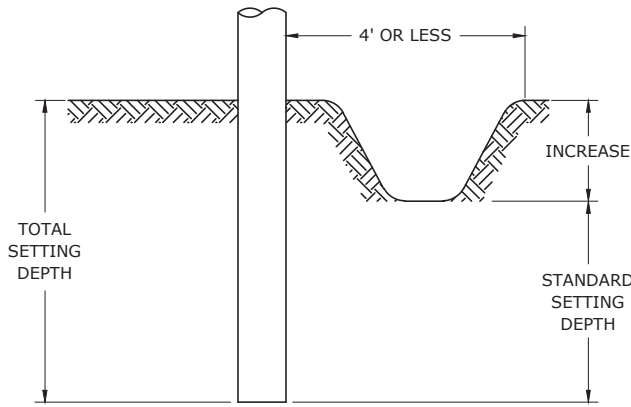

FIGURE 1
2. IF DITCH IS LESS THAN 12" DEEP (FIGURE 1), POLE MAY BE SET TO STANDARD DEPTH WITH NO INCREASED DEPTH.